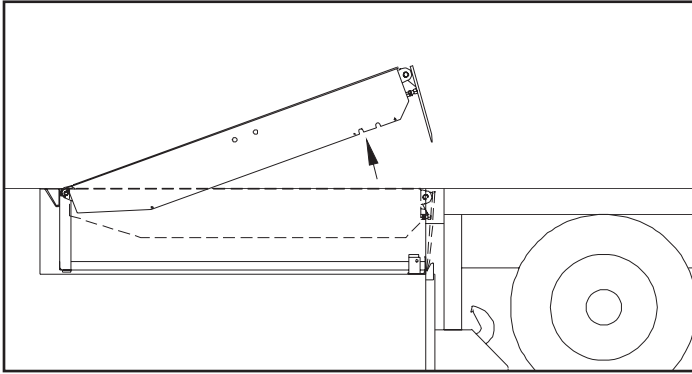

FIGURE 6 - END LOAD OPERATION - LIP POSITION
1. Activate the leveler by pushing and holding the RAISE button until leveler lip clears the lip supports. See figure 6.